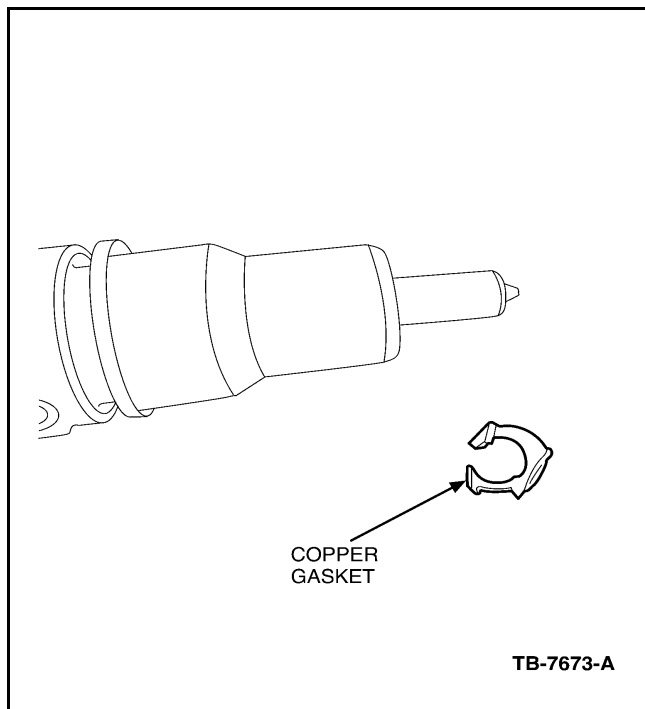

Figure 1 - Article 03-20-10
**IF THE INJECTOR IS GOING TO BE REUSED ALWAYS REPLACE THE O-RINGS AND COPPER GASKET (ONE (1) COPPER COMBUSTION SEAL, TWO (2) FUEL O-RINGS).**
- Prior to installing the injector, lubricate the two (2) fuel O-rings with clean diesel engine oil.
- Inspect injector hold down bolt hole in the cylinder head and ensure it is clean and free of any oil or debris that could impact the torque of the bolt, resulting in an improper torque reading. Install the injector and Torque the hold down bolt to 32.5N•m (24 lb-ft). An under torqued injector hold down bolt will result in failure (Figure 1).